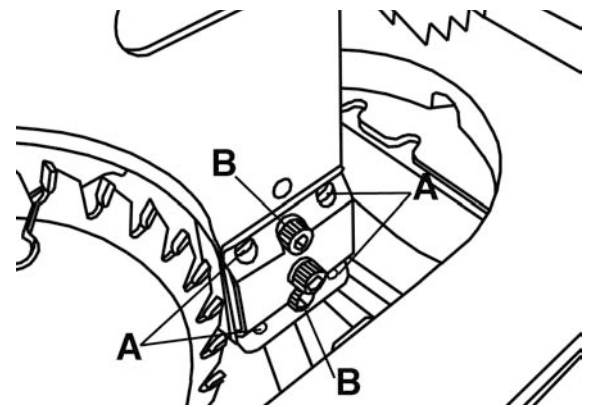

FIGURE 22
Place a straightedge against the blade and the splitter or riving knife and check for parallelism. If an adjustment is needed, the mounting position can be adjusted into alignment with the blade using the adjustment set screws (A) Fig.22.
3. Loosen the upper and lower cap screws (B) Fig.22, then adjust the 4 set screws in or out until the alignment is perfectly parallel.